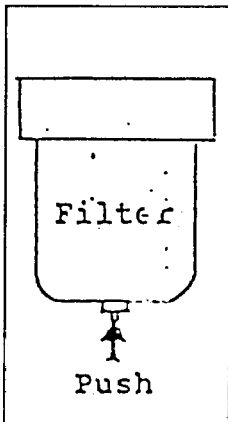

fig. 11
■ To release water from filter, push protruding pin on filter (fig 11).